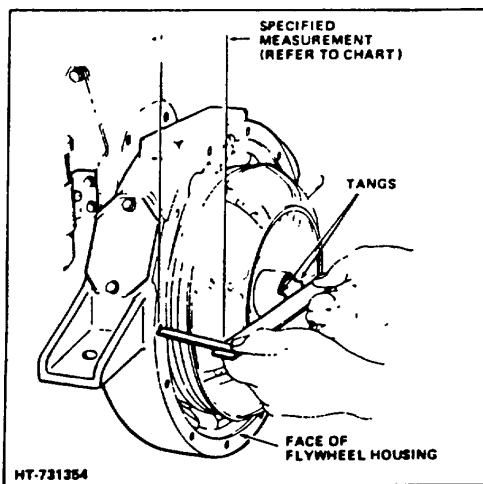

Figure 14. Checking Tang Depth
- b. Place a scale or rule across the tangs of the converter and another scale from the face of the flywheel housing to the scale across the converter tangs. (See Figure 14.)
- c. Record the measurement from the face of the tangs to the face of the housing as illustrated in Figure 14, and compare measurement to proper valve on chart.